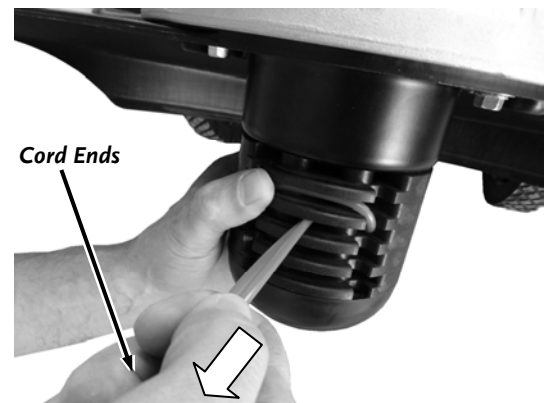

Figure 19
3. Pull the ends of the Cord under the loop and push the loop up into the Line Plate groove above them (**Figure 19**) and then pull the ends tight.